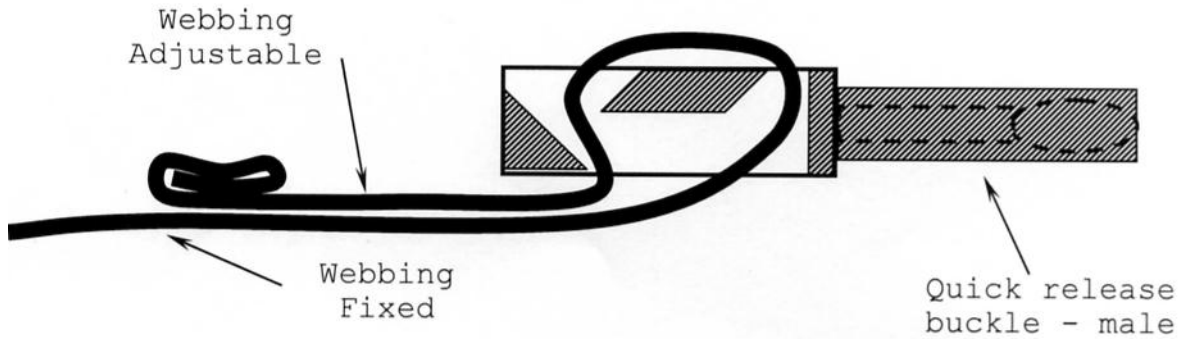

FIG 1 – CUT AWAY VIEW OF QUICK RELEASE BUCKLE
- 1.9 Examine the buckles for security, operation, cracks, deformation, indentations from impacts etc. Check the webbing is threaded correctly through the buckle to ensure correct function (see Fig 1).